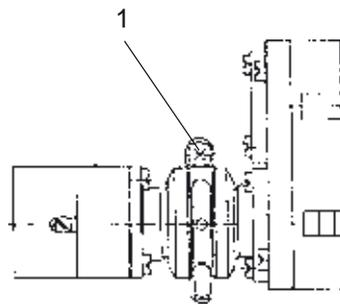

Fig. 17-3: Photometer Assembly (1 mm to 10 mm analysis cells)
- Remove the clamp (Fig. 17-3, Item 1).
- Install the clamp (Fig. 17-3, Item 1) and tighten.